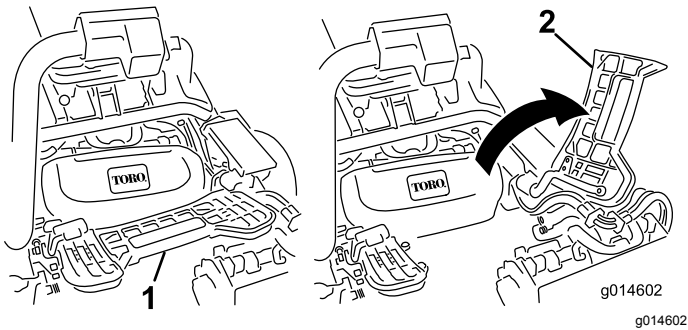

Figure 44
1. Lift up on the footrest and swing it open, allowing access to the center cutting unit position (Figure 44).